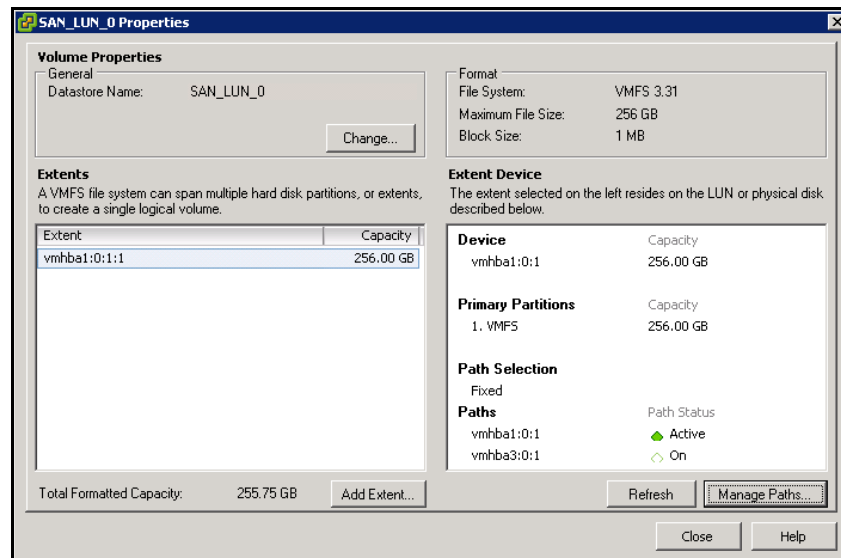

Figure 4-12: Example of LUN Properties Dialog Box
4. Select a Fibre Channel HBA under **Storage Adapters**. Then right-click a LUN in the lower part of the screen (under **SCSI Target 0** in the figure above) and click **Properties**. A LUN Properties dialog box similar to the one in Figure 4-12 appears.